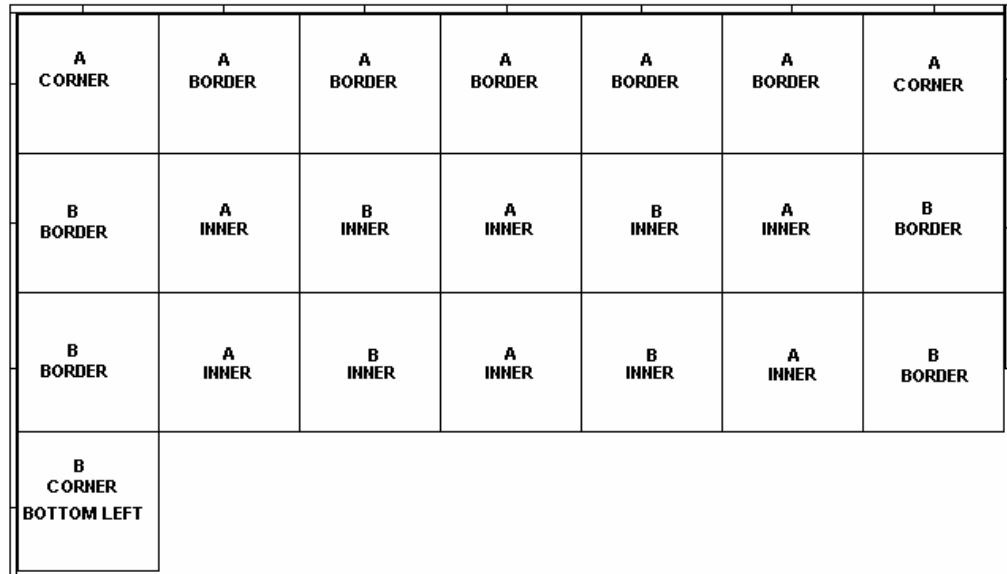

Figure 25
22. Next lock the “B BORDER LEFT” panel and the “B CORNER BOTTOM LEFT” panel with a transition and a corner transition. (Figure 25)